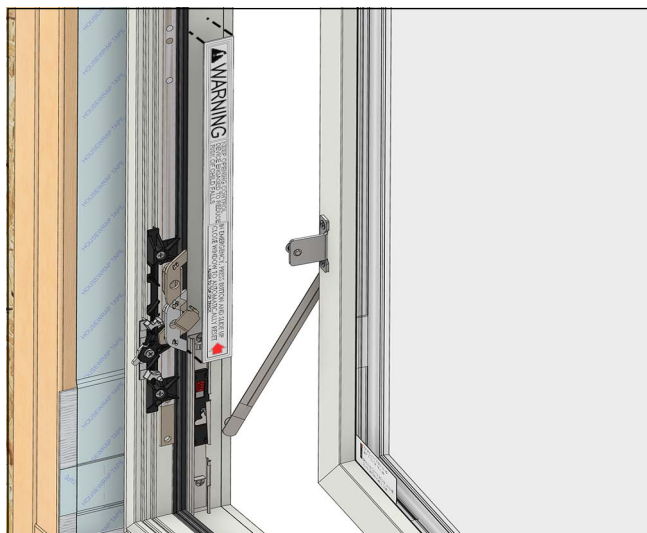

Figure 10
2. Attach the frame warning decal on the frame near the WOCD frame track. See Figure 10.